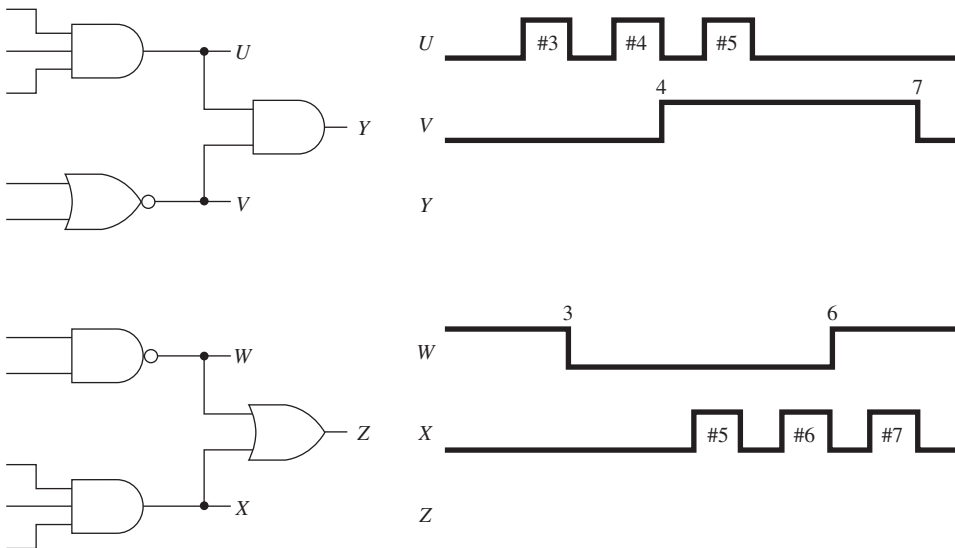

Figure P39
- C** 39. Determine which lines from the Johnson shift counter are required at the inputs of the circuits shown in Figure P39 to produce the waveforms at U , V , W , and X .
- C** 40. The waveforms at U , V , W , and X are given in Figure P39. Sketch the waveforms at Y and Z .